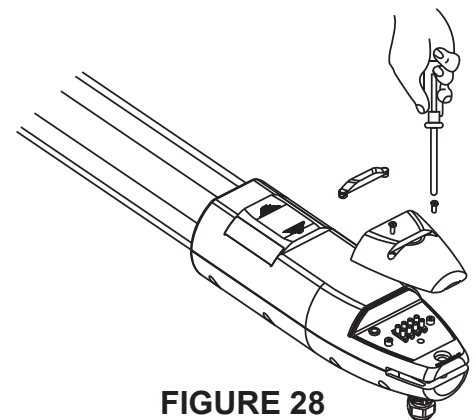

FIGURE 28
- 17 Close the gear motor cover by tightening the two screws as shown in Figure 28